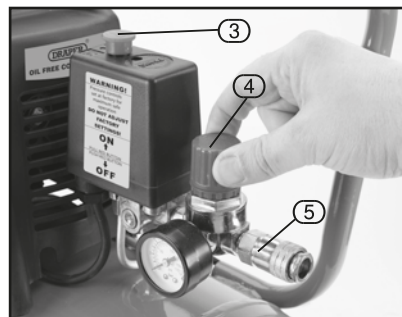

FIG.3
8.2 INITIAL STARTUP - FIG. 3
- Insert a euro connector into the air outlet connector (see 9.1) (5) and open the regulator fully.
- Turn the compressor on by pulling the pressure switch On/Off (3) button up.
- Turn the regulator dial (4) fully counter-clockwise allowing pressure to build up. Once the maximum pressure is reached, the pressure switch will automatically turn the machine off.